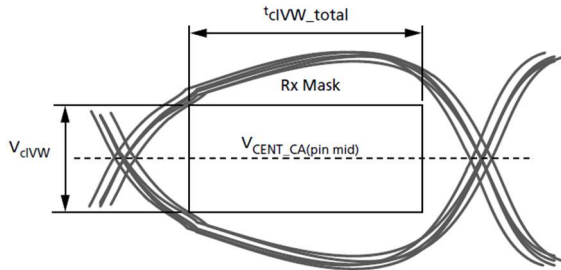

Figure 20 - CA Receiver (Rx) Mask
- Exit command bus training mode to next valid command delay time depends on value of V_{REF(CA)} setting: MR12 OP[5:0] and VREF(CA) range: MR12 OP[6] of FSP-OP 0 and 1. The details are shown in tFC value mapping table. Additionally exit command bus training mode to next valid command delay time may affect V_{REF(DQ)} setting. Settling time of V_{REF(DQ)} level is same as V_{REF(CA)} level.
The command and address (CA) including CS input receiver compliance mask for voltage and timing is shown in Figure 20. All CA, CS signals apply the same compliance mask and operate in single data rate mode.